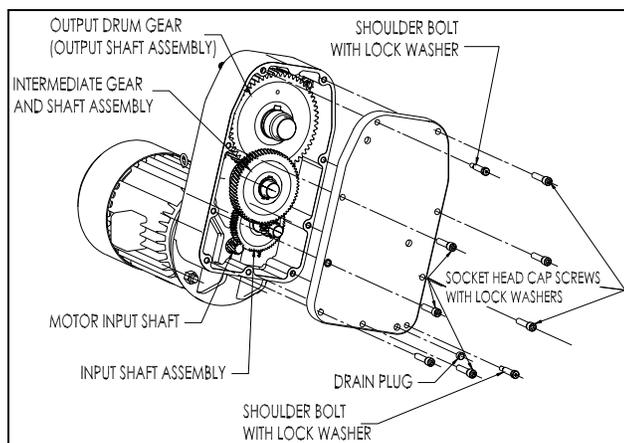

**Figure 5-7. Drum Frame & Geared Limit Switch.**
- b) Remove the Geared Limit Switch or disconnect the wires so that the electrical cable will not inhibit removal of the drum. (See Figure 5-7).
- c) Remove the unit from service, place it on the ground, and provide adequate means to support the drum before removing the frame rod nuts at the outboard drum frame end (Figure 5-7). The hardware attaching the drum frame to the hoist and trolley frame may then be removed.